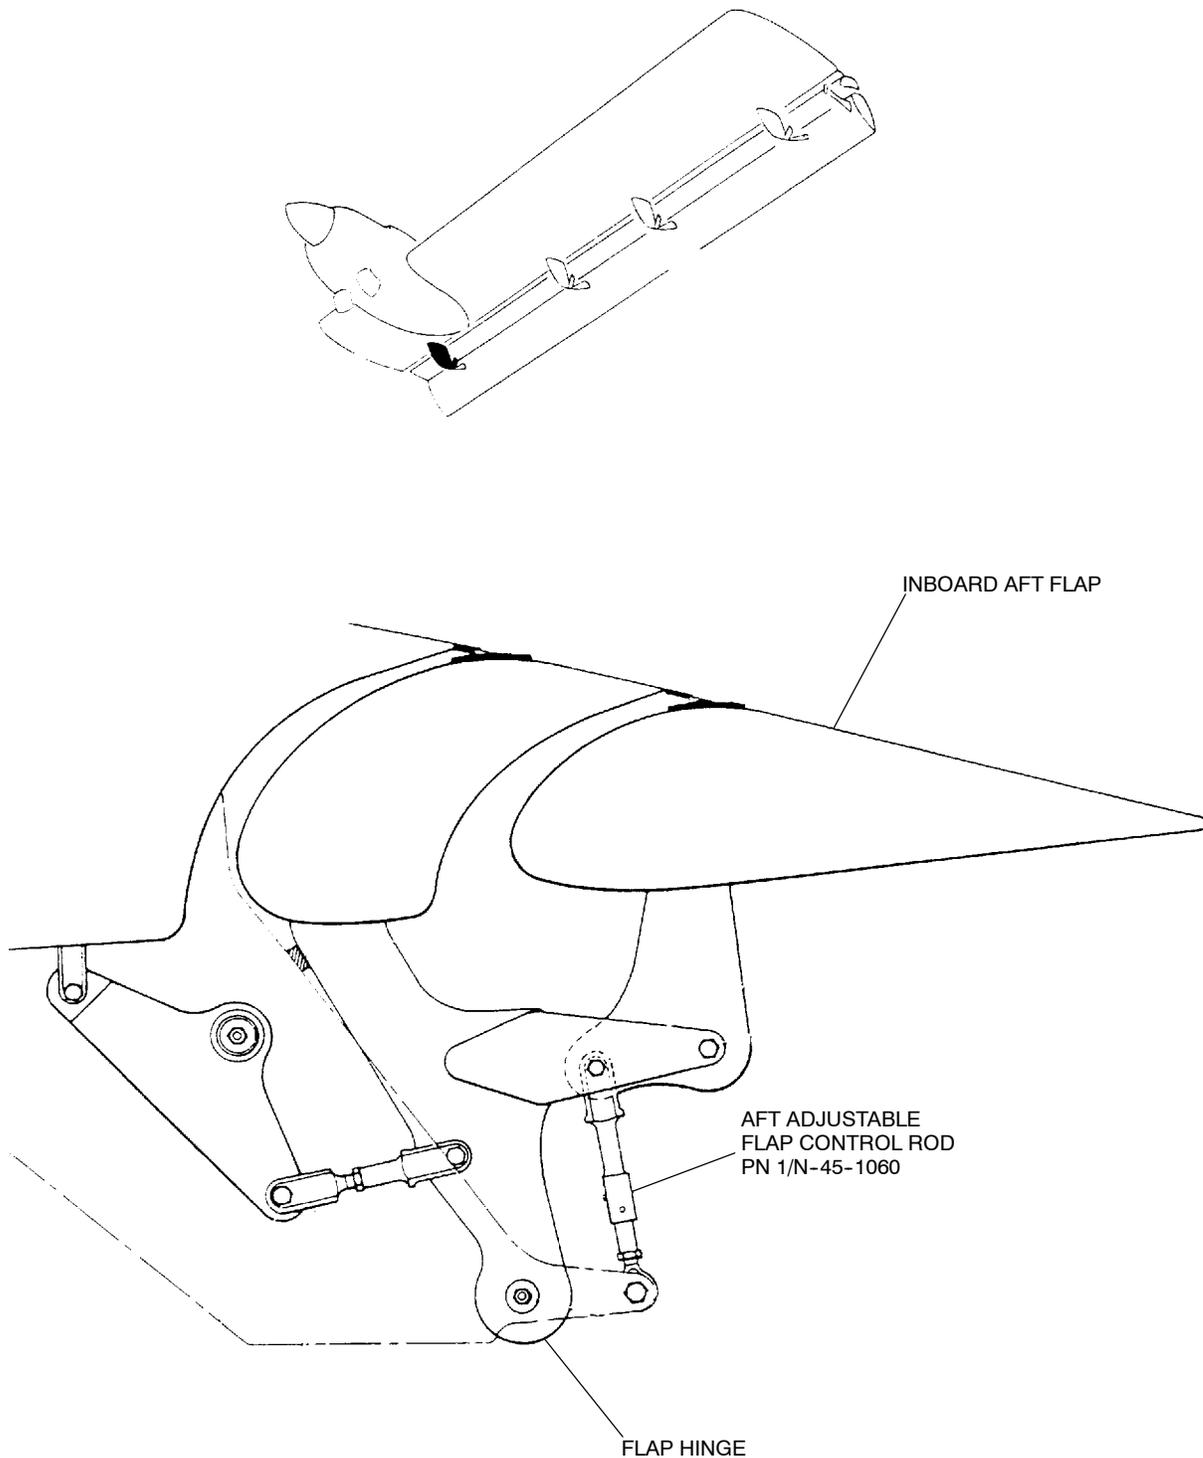

Figure 1 Adjustable Flap Control Rod- WSTA 28.55
- (1) Extend the flaps fully and open either LH or RH trailing edge doors to gain access to the aileron controls in the wing.
- (2) Retract the flaps.
- (3) Fit Rigging Pin PN 1/N-88-83 to the mechanical stop lever at wsta 167.50 in the assigned wing (Ref MM 27-10-00 page 206).
- (4) Note and record the relative position of the flap trailing edge with reference to the flap datum plate on the aircraft fuselage (Ref MM 27-00-00 Fig 1).
- (5) Note and record the relative streamline position of the aileron trailing edge to the flap trailing edge as established in Para (4).
- (1) Remove the flap control rod assemblies PN 1/N-45-1060 (Ref Fig 1) from the forward and inner rear flaps at wsta 28.55 (Ref MM 27-50-00 Page 205 and IPC 27-50-02, Fig 6, Item 25). Discard the self locking nuts but retain all other attaching parts.
- (9) Ream the remaining hole to suit taper pin PN MS24692-** using standard taper reamer and insert new taper pin PN MS24692-**. Gently tap the taper pin in to maintain alignment.
- (10) Remove the taper pin from the first hole and ream the hole to suit taper pin PN MS24692-**.
- (11) Disassemble and de-bur the reamed holes.
- (12) Wet assemble and align the taper pin holes.
- (13) Wet assemble the taper pins PN MS24692-**.
- (14) Ensure taper pin protrusion is between $\frac{1}{2}$ to 1 diameter of the taper pin. Trim taper pin ends as required to achieve this dimension.
- (15) Support the large end of the taper pin and peen the small end.
- (16) Check distance between pivot bolt holes and adjust if necessary to coincide with dimension established in Para (4) above.
- (17) Install the flap control rod assemblies (Ref MM 27-50-00 Page 205), fork end uppermost with boltheads facing outwards, using new self locking nuts PN MS21083N4, MS21083N6 and existing attaching hardware.
- (18) With the ailerons set to the streamline condition and the flaps to 0° , check that the alignment is the same as that established in Part 2.A.(4) . Torque tighten the control rod adjuster locking nuts to 95-110lb.in.
- (19) Torque tighten fork end pivot bolt nut to 30-40lb.in and the bearing end pivot bolt nut to 95-110lb.in (Ref MM 27-50-00 Fig 1).